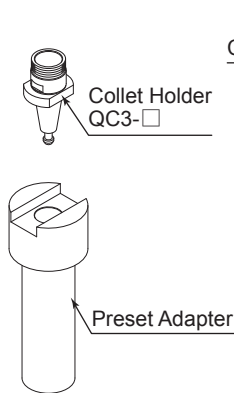

Fig. 10
- (1) Affix the preset adapter to the tool holder (ϕ 20mm) etc.
- (2) Align the collet holder to the drive dog notch of the preset adapter, and insert the collet holder (Fig. 10).